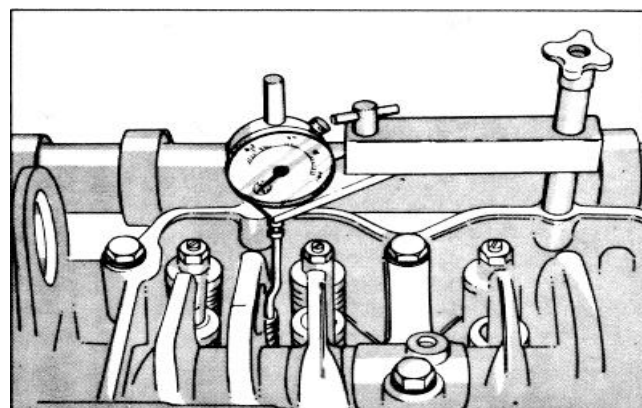

Fig. 14-72 (OM 1051 L). Check The Travel Of The Injector Plunger.
- Use the Part No. 3375842 Injector Adjustment Kit to check the travel of the injector plunger. Install the dial indicator and support so that the extension for the dial indicator is against the injector plunger, Fig. 14-72. Make sure that the extension is correctly installed into the indicator stem and that it does -not touch the rocker lever.